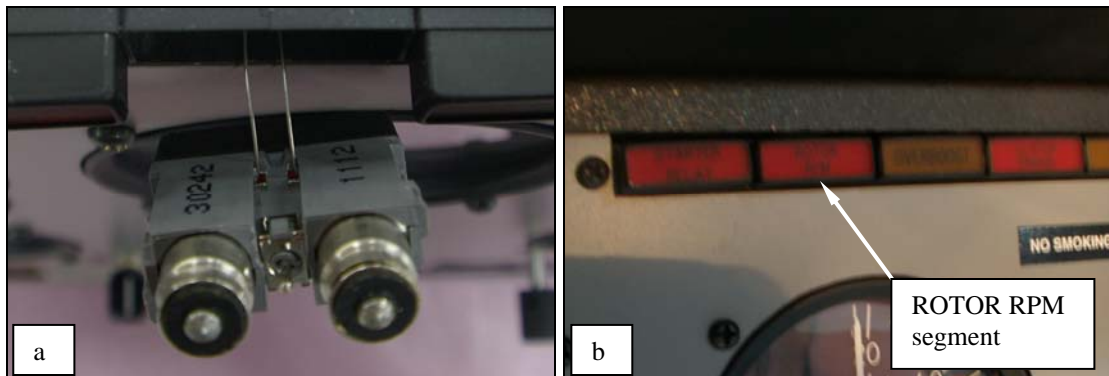

Figure 2. ROTOR RPM Annunciator Segment Installation
B. Remove the LOW ROTOR RPM segment from the annunciator panel. (Figure 2)